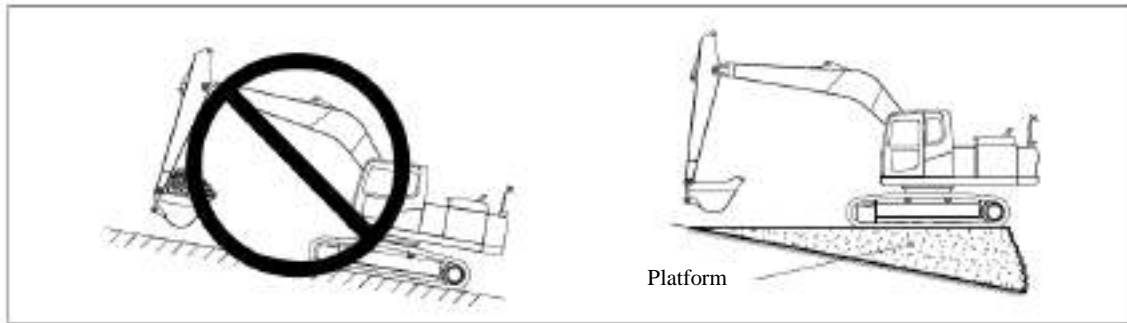

Figure 5-2 Prohibited movement with long device (II)
c). If a long working device is mounted on the machine, the operating range will suddenly get larger, so there will be misjudgment of distance and risk of hitting certain objects. When operating a working device, be sure to leave some space for any object within the region (Figure 5-2).